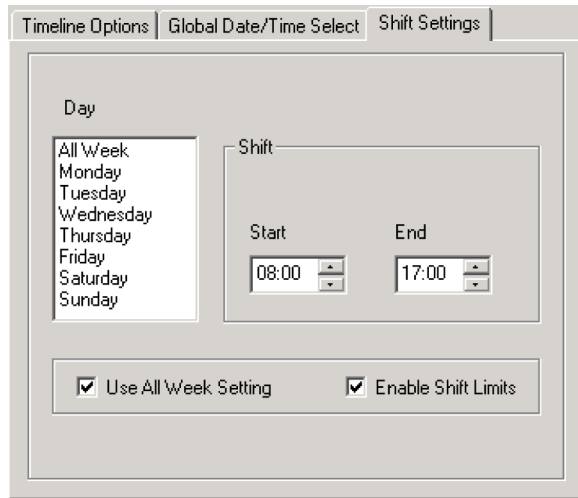

Figure 8.13 Global Chart Options dialog box: Shift Settings tab
- 1 In the **Shift Settings** tab in the **Global Chart Options** dialog box (see Figure 8.13), select the **Enable Shift Limits** check box.